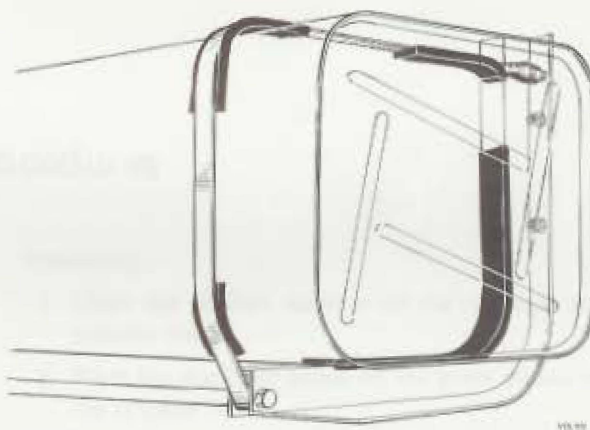

Fig. 23-36. Installing the fuel tank
2. Bend up the tensioning band and fit the retaining nuts. Note the location of the rubber strips, Fig. 23-36.